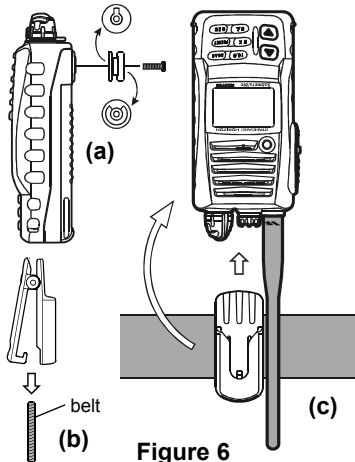

Figure 6
1. Connect the hanger to the rear of the **HX370S**, with the notch pointing directly up, using the supplied screw (Figure 6-a).
2. Clip the Quick Draw Belt Clip to your belt (Figure 6-b).
4. To remove the **HX370S** from the Quick Draw Belt Clip, Rotate the **HX370S** 180 degrees, then slide the transceiver out from the Quick Draw Belt Clip (Figure 6-c).